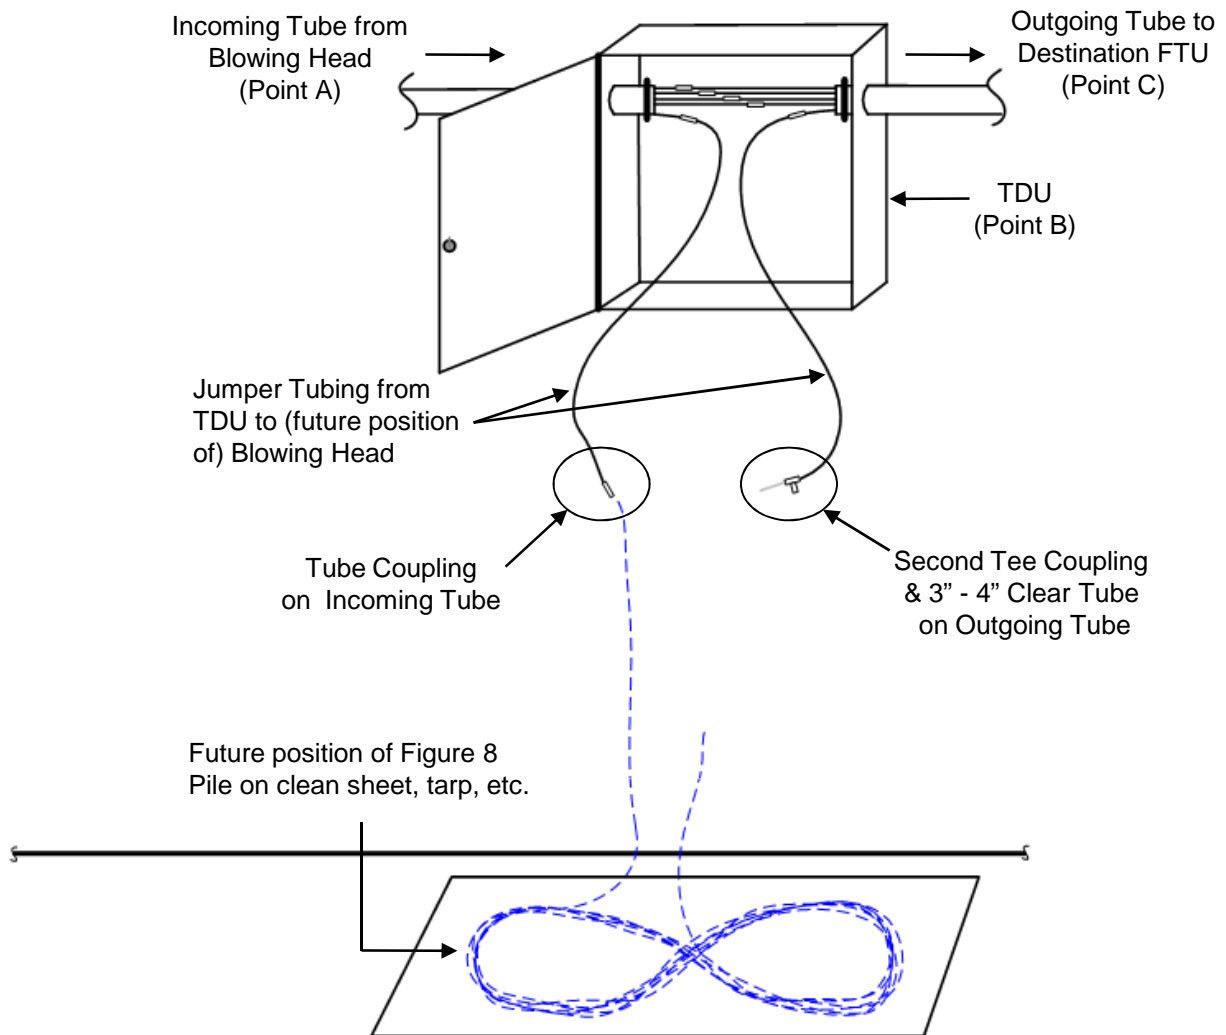

Figure 4
6.5 At Point B TDU, uncouple tube span and perform the following steps. **See Fig. 4.**